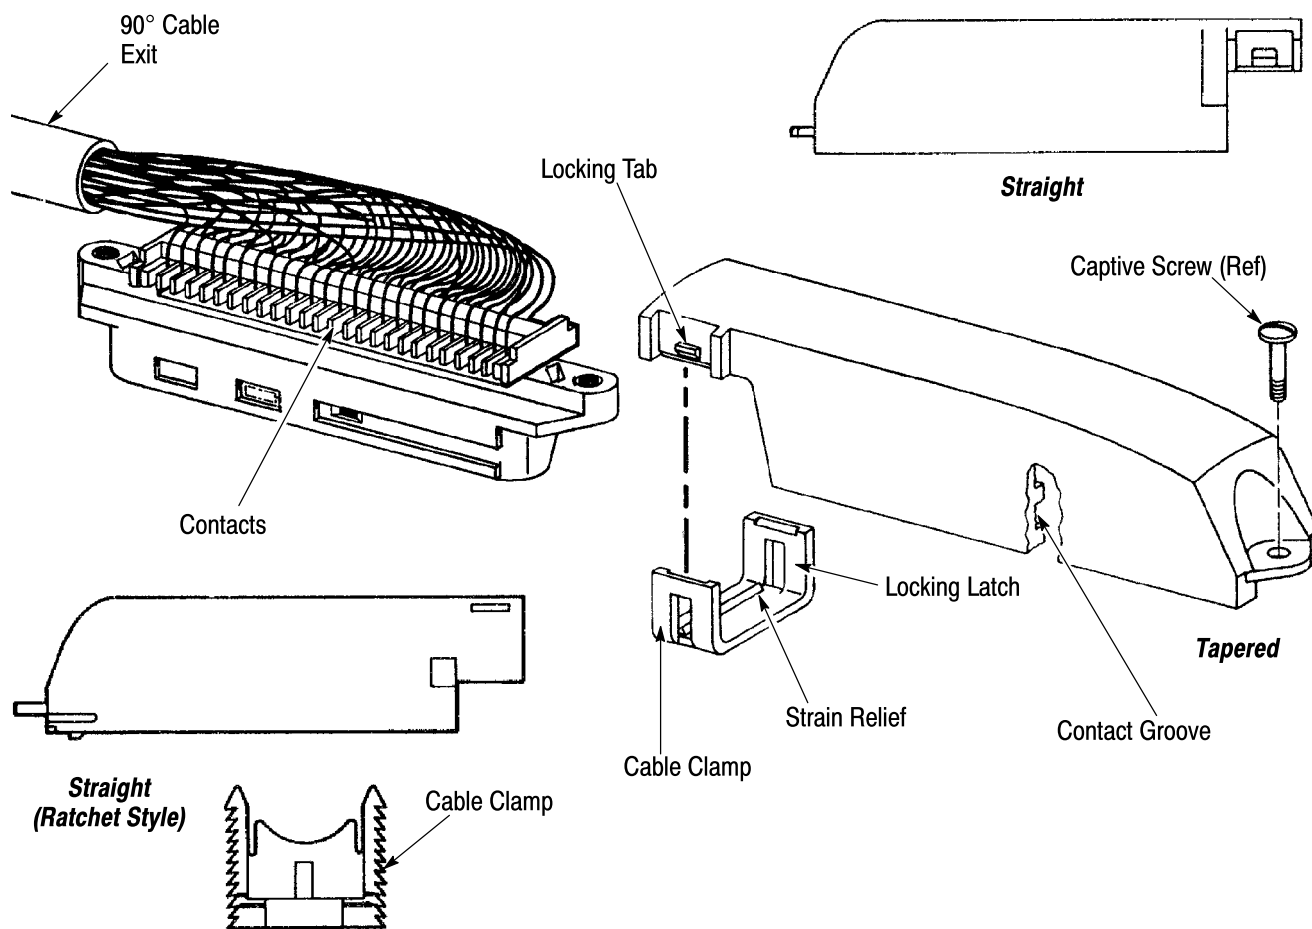

Figure 4
1. Grip the connector firmly with one hand, then draw the other hand over the wire and towards the proper end of the connector - forming the wires as indicated in Figure 4. Do NOT overwork the wires.